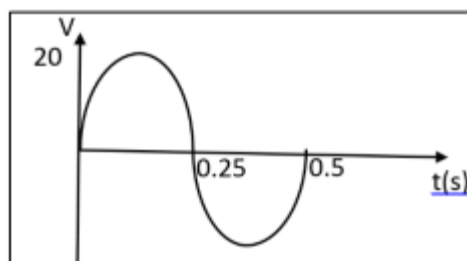

Figure 3
8. List TWO (2) methods of generating alternating current.
12. Based on Figure 3 below: